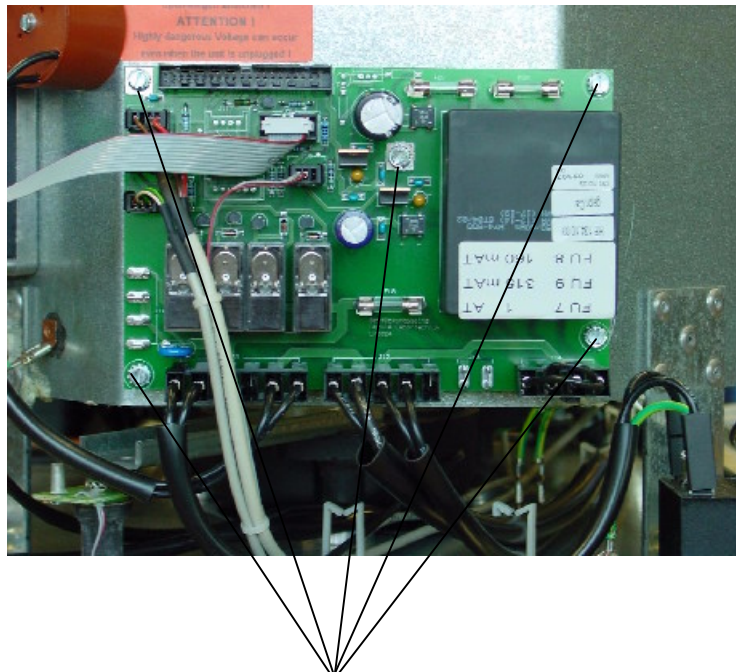

figure 28
- Remove screws 1-5 (figure 28).